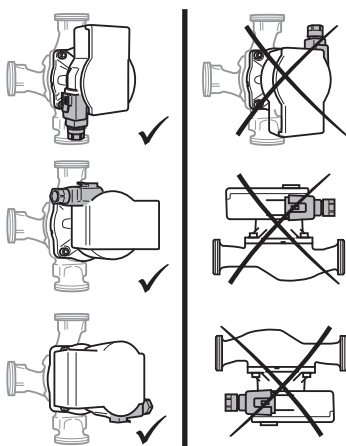

Fig. 2: Installation positions
- Select the installation point according to the permitted installation position (Fig. 2).
- Observe the pump's allowable installation position (Fig. 2), rotate the motor head (2 + 6) if necessary.
- Observe the permitted installation position (Fig. 2) and the direction of flow arrow on the pump housing (1).
- Tighten the 4 housing screws (5).